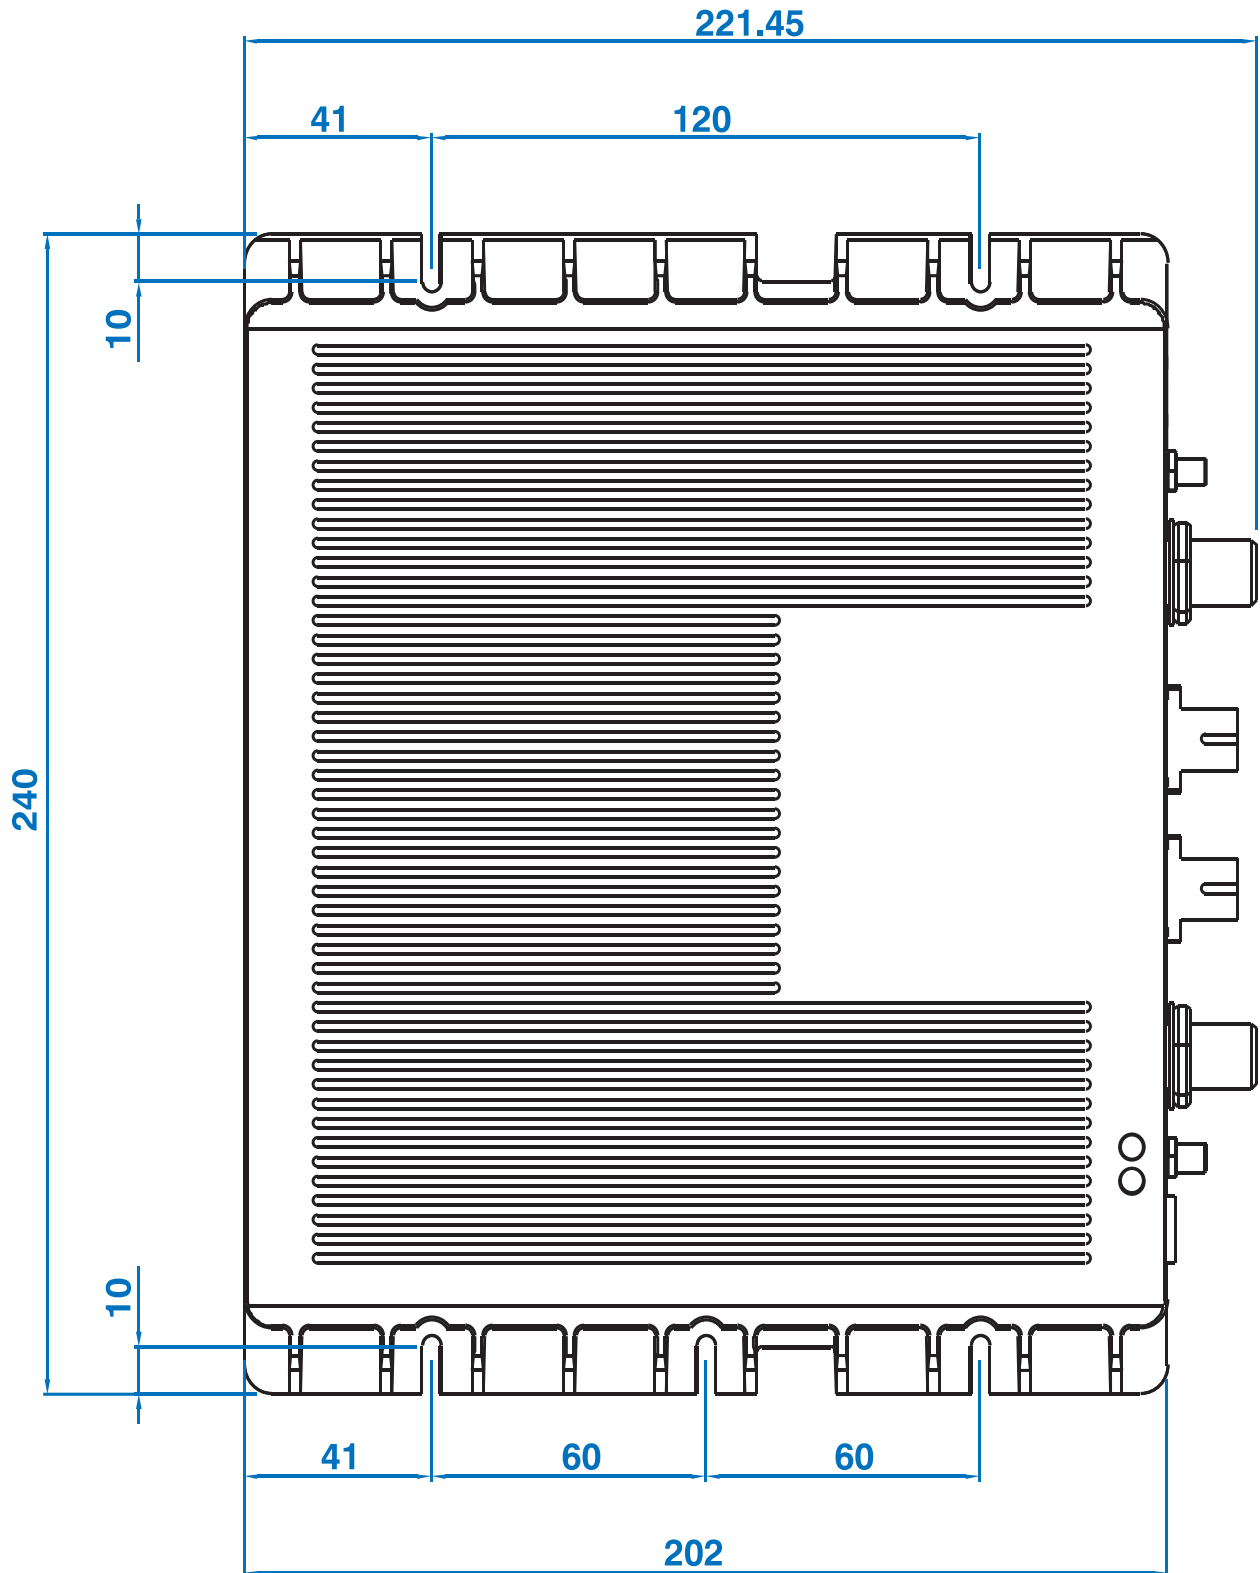

Figure 3.2.9 : Case A layout with waal anchor quotes
1. In order to install the M4 screw anchors (not included) which hold up the TFAx Remote Unit, drill into the wall according to the proper layout shown in Fig. 3.2.9.